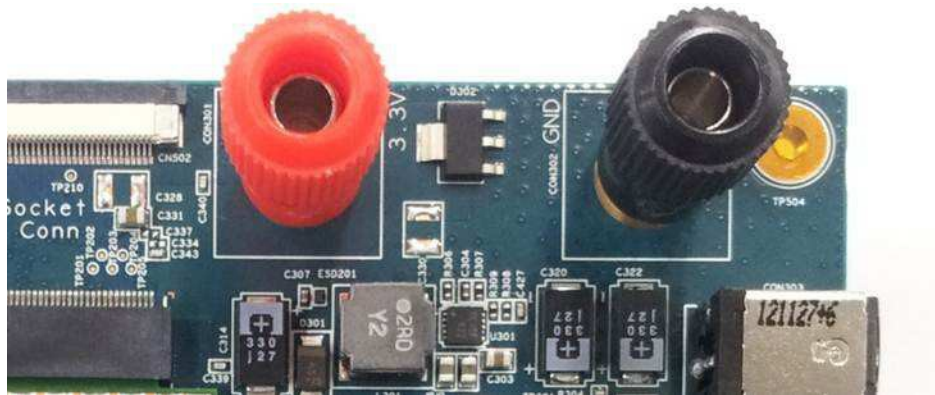

Figure 6 Direct DC Supply Path: Connector position on PCB
- b. See Figure 6 for supply from DC jack and